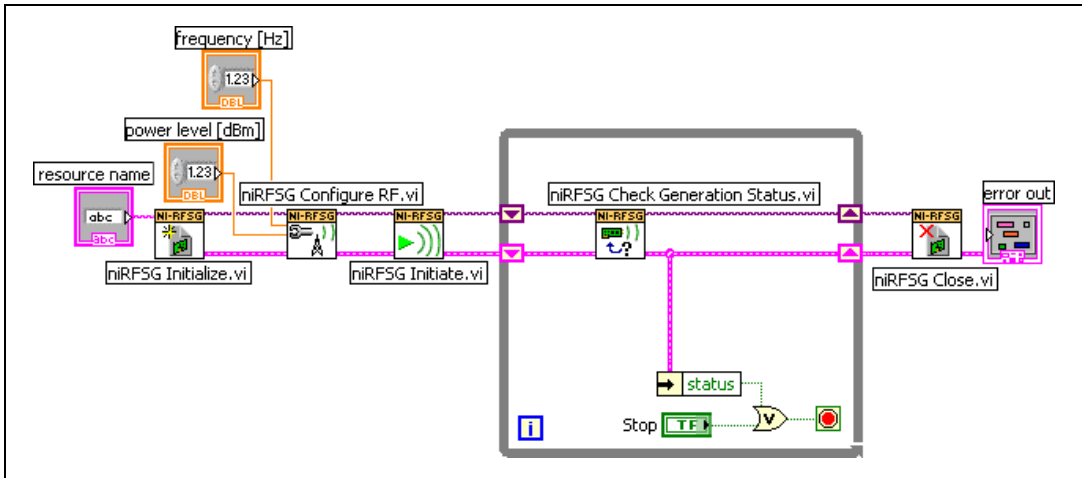

Figure 19. Basic Sine Wave Generation VI Block Diagram
23. Verify that the VI block diagram now looks like the example in Figure 19.